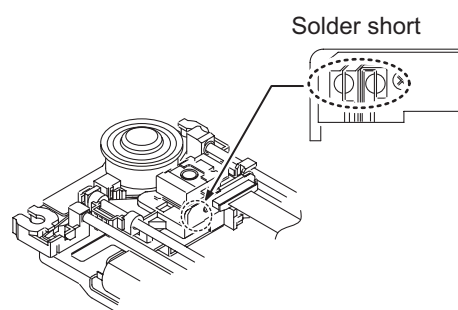

Fig.6
- (6) Solder the solder part of DVD pickup. (See Fig.6)